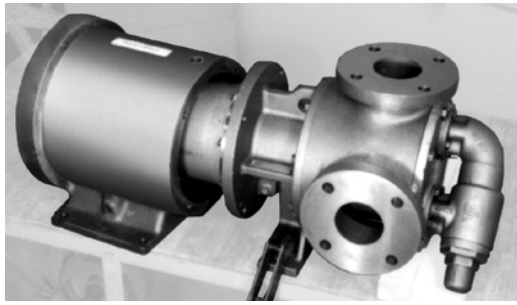

FIGURE 11
4. To facilitate disassembly, it may be necessary to slide a block of wood under the pump casing or clamp pump foot as shown, since the pump alone will not balance on foot. See **Figure 11** on page 8. Remove the (4) 0.50" capscrews securing the pump to the coupling bracket. After parting the bracket slightly, it will have a tendency to be drawn to one side due to the inner magnet. Pull the coupling bracket completely away.